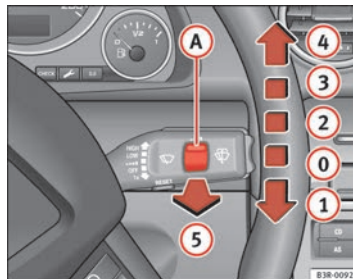

Fig. 101 Windscreen wiper lever
The windscreen wiper lever ⇒ fig. 101 has the following settings:
With the lights switched on, operate the automatic wash and wipe ⇒ page 128, fig. 101 (5), and keep the lever pulled towards you for at least 1 second.